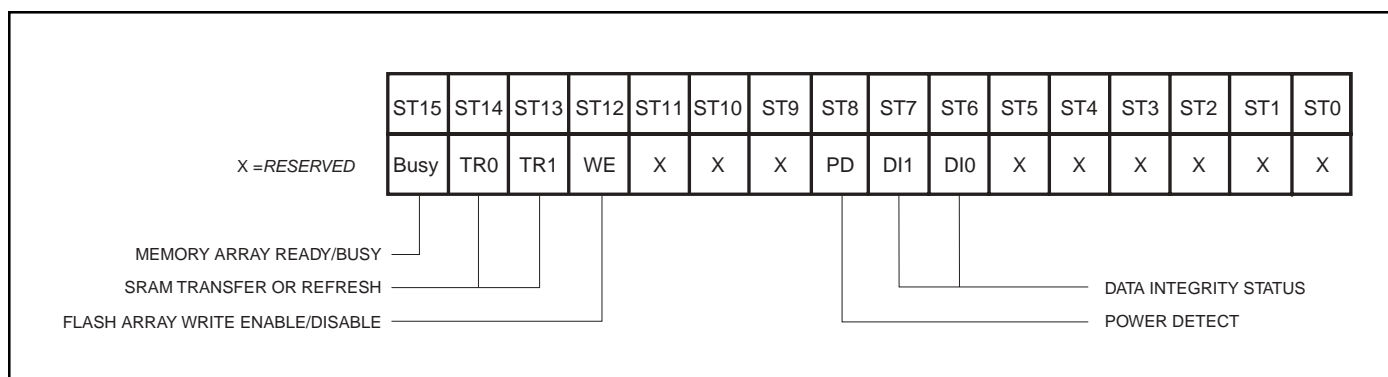

Figure 6. Status Register Bit Locations
The status register provides status of the Flash array's Ready/Busy condition (R/B), transfers between the SRAM and program buffer (TR0 and TR1), Write-Enable/Disable (WE), Compare Not Equal (CNE), Power Detect (PD) and Data Integrity status (DI0 and DI1). The register can be read using the Read Status Register command (Figure 6).
The *Read Status Register* command provides access to the status register and its status flags for Ready/Busy (R/B), SRAM buffer transfer operations (TR0 and TR1), Write Enable/Disable (WE), Power Detect and Data Integrity bits (Figure 6). An 16-bit Status field ST[16:0] provides the contents of the Status Register.